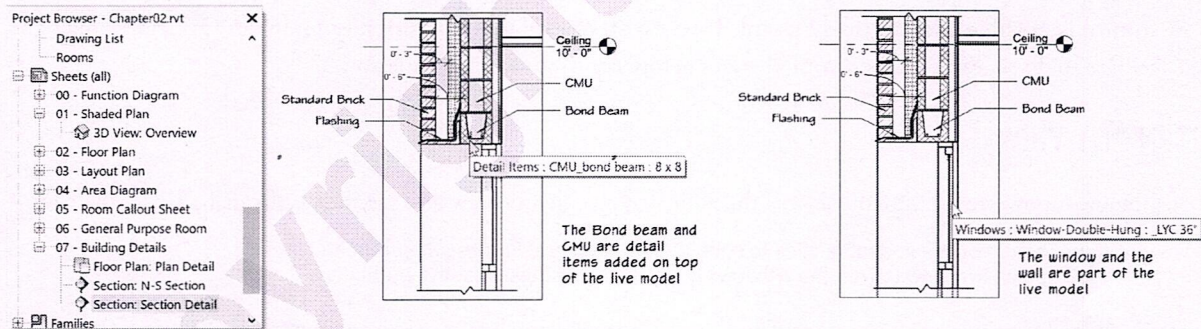

FIGURE 2.20 Explore a detail view—Note the combination of detail and model elements
2. Pre-highlight some of the elements in this view (see Figure 2.20).